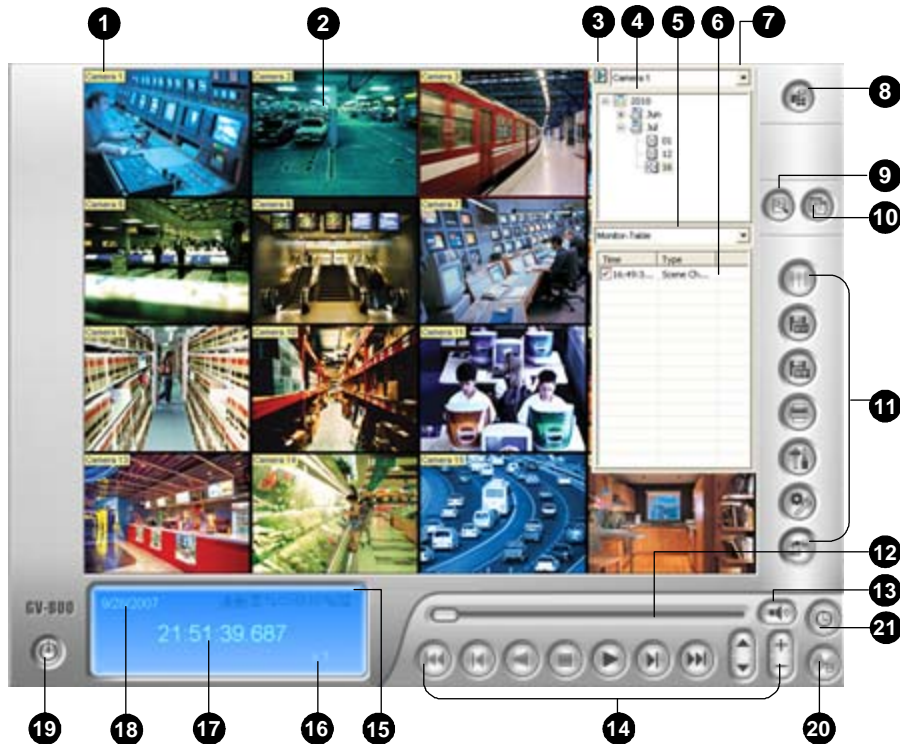

Figure 4-1 The ViewLog Window
Without further settings you can play back the event by clicking the **Play** button on Playback Panel. Click the **View Mode** button (No. 8, Figure 4-1) to switch the current view mode to a multi-channel view. Use controls on Playback Panel to view the event in the way you want. Move the slider in Playback Meter (No. 12, Figure 4-1) forward and backward to navigate video frames.
To play back multiple events, keep pressing **[CTRL]** on the keyboard and highlight the desired events on the Video Event List (No. 6, Figure 4-1). Then click the **Play** button to play these events. To select events from different dates, click the date from the Date Tree (No. 4, Figure 4-1). Events of that date will be listed in the Video Event List.
Click the **View Mode** button (No. 8, Figure 4-1) any time when you want to change the current view mode.
1. Select a desired video event from Video Event List (No. 6, Figure 4-1), and then right-click it to call up a menu as shown below.